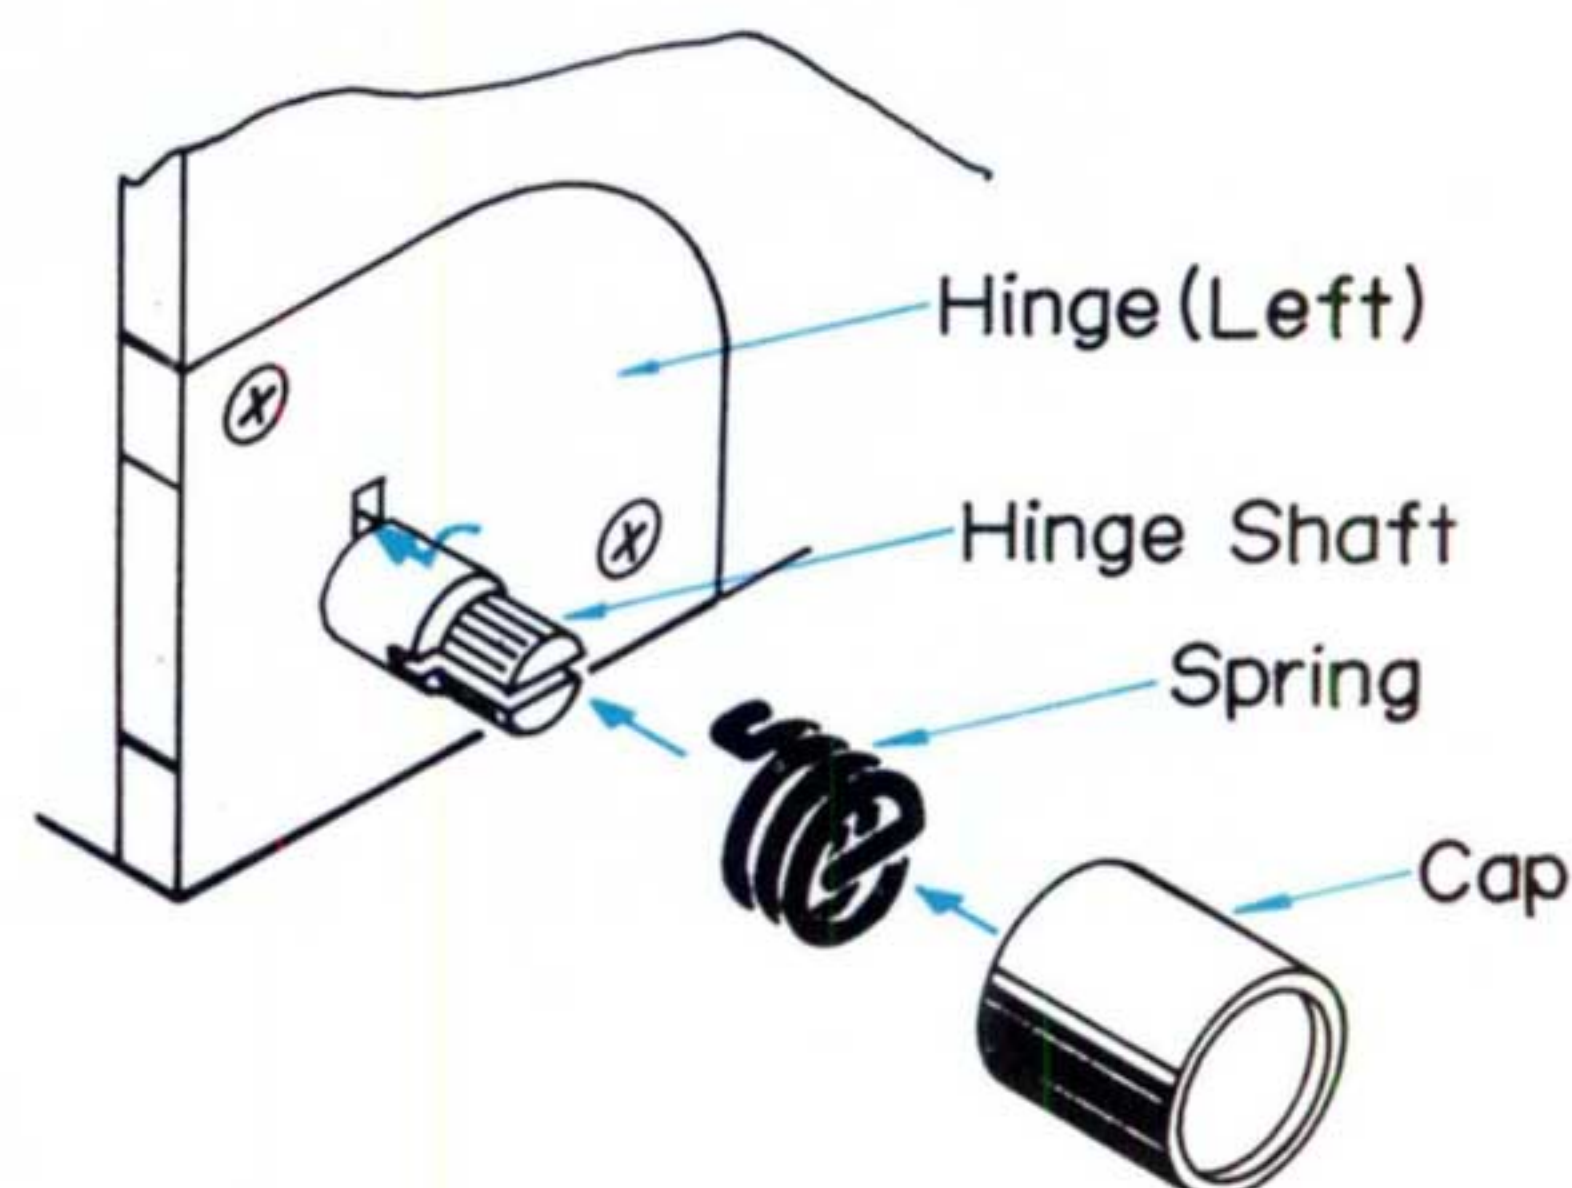

Fig. 2-3 Hinge Mechanism Details
8. Fit the end of the coil spring into the slot of the left hinge shaft. Pull the other end toward you and hook it into the small square hole in the hinge mechanism. See Fig. 2-3.